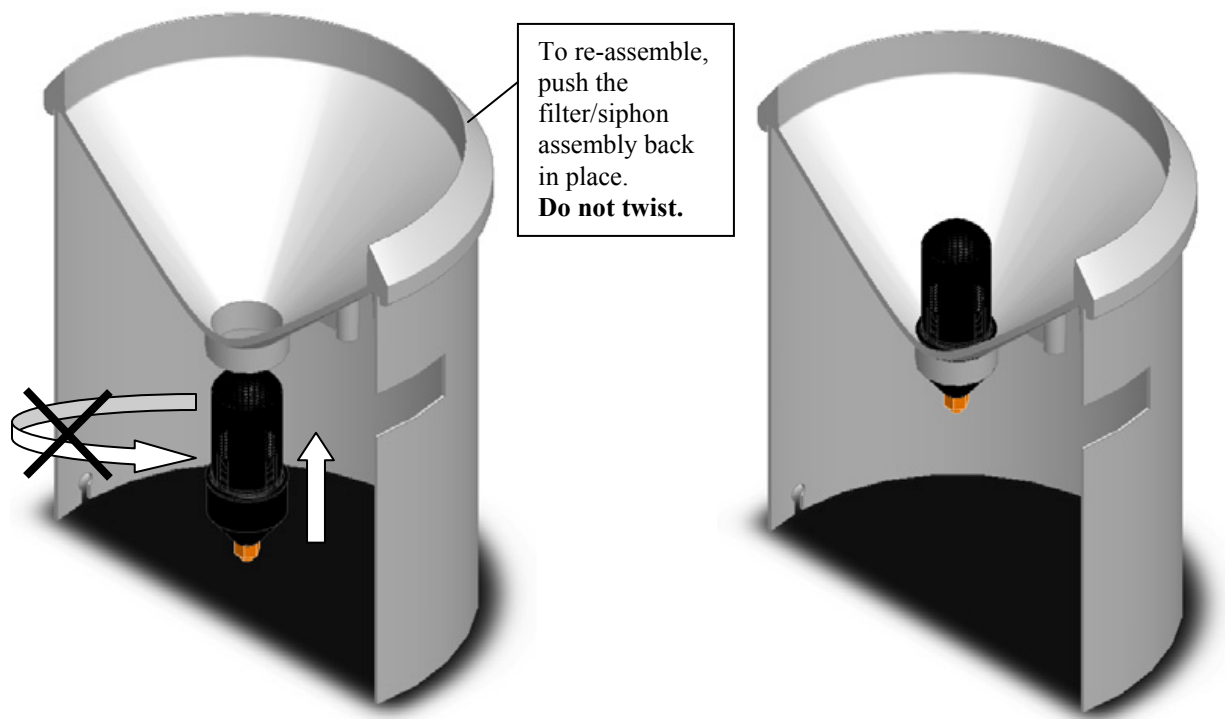

FIGURE 7-4. Reassembling the CS700
4. Push filter/siphon assembly back into place (see Figure 7-4).